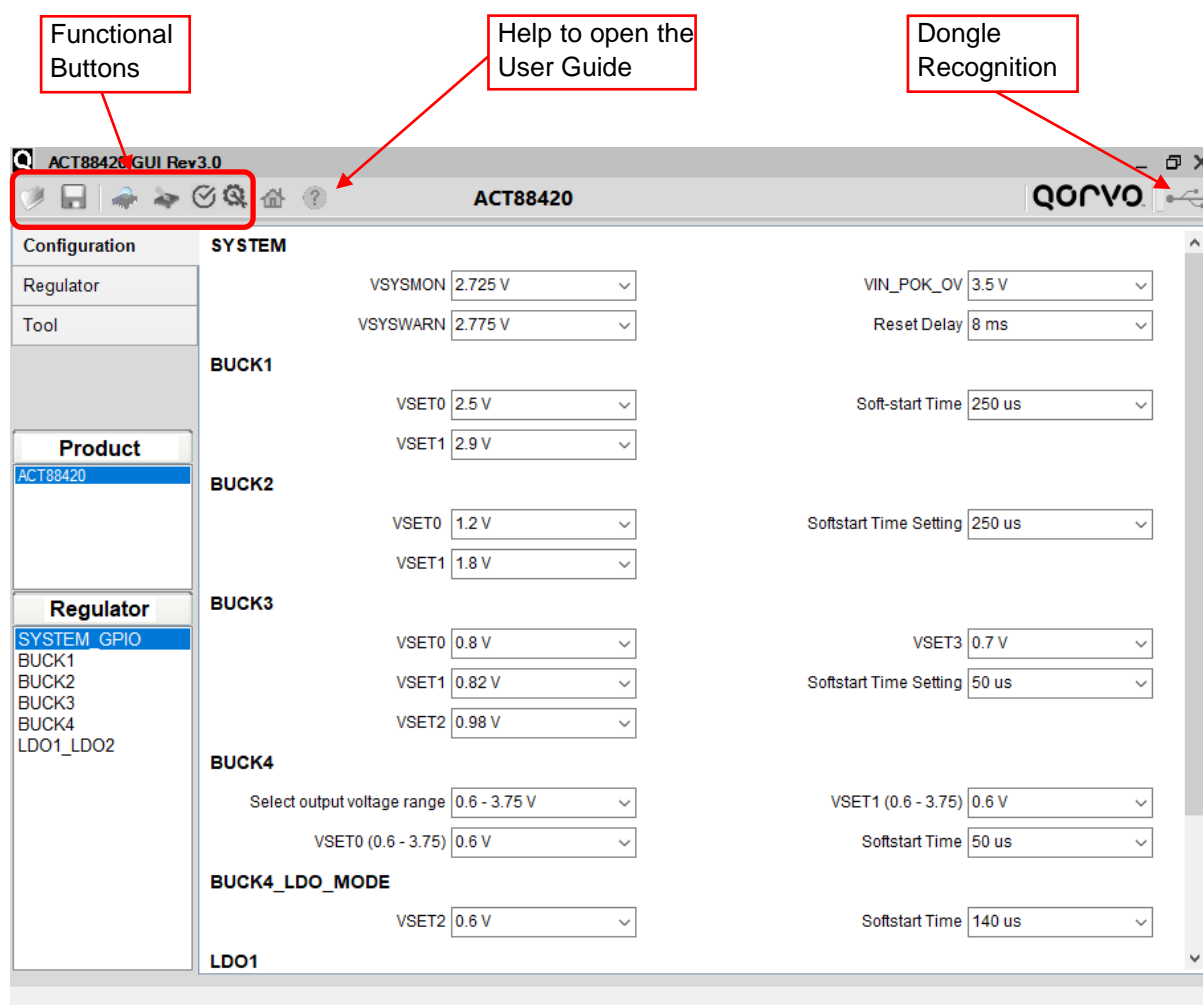

Figure 2: GUI in Configuration Mode
3. Double click the "ACT88420 GUI Rev3.x.exe" to Open the GUI. The GUI starts up in the Configuration mode as shown in **Figure 2** below. The "dongle recognition" icon shows up to let user the dongle is ready to use.
**Figure 2** above shows the GUI's 6 functional buttons as icons on the top left corner. Moving from left to right, these are: Open, Save, Read, Write, Confirm and I2C Configuration.